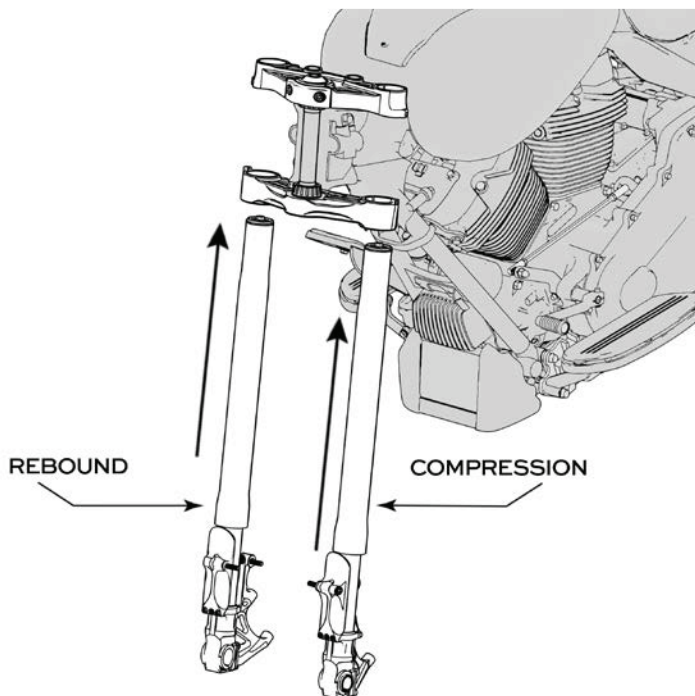

Fig. 10
2. Install each fork leg into trees. **(See fig. 10)** Ensure pinch bolts are loose. Starting with one side of the triple tree using small flat blade screwdrivers or shims, expand both top and bottom fork clamp pinch bolts slightly. This makes sliding the fork into the triple trees easier, while avoiding damaging the fork legs. Repeat process with opposite side.